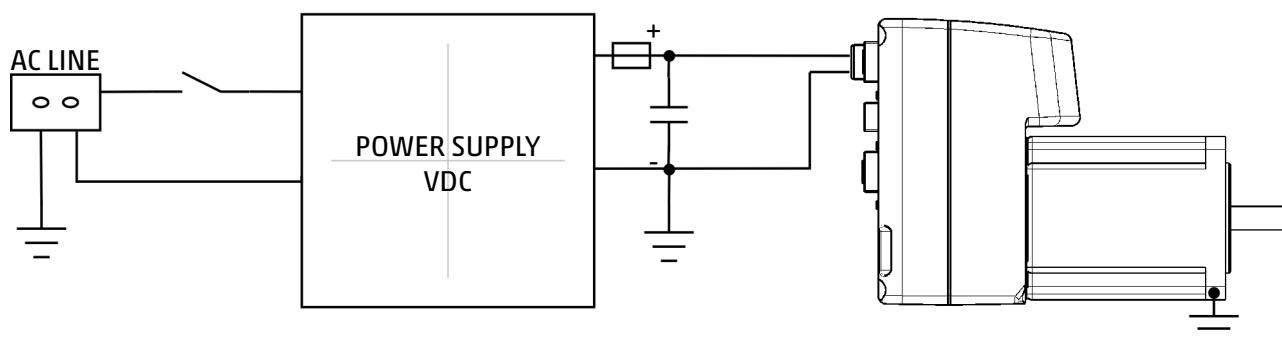

Figure 3.1: VDC wiring example.
**⚠** The drive does not have an inrush current limitation, hence you must use the input of the power supply to turn the drive on and off. Never switch the output voltage of the power supply (hot plugging). In Figures 3.1 and 3.2 are shown the wiring examples for VDC and VL.